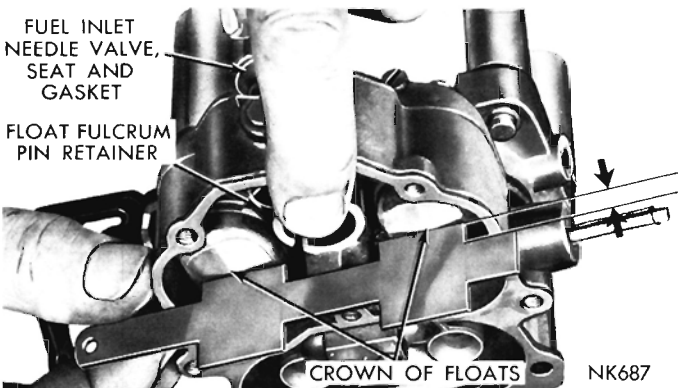

Fig. 10—Measuring the Float Setting
- (1) Install the floats with the fulcrum pin and pin retainer in the main body.
- (2) Install the needle, seat and gasket in the body and tighten securely.
- (3) Invert the main body (catch the pump intake check ball) so that the weight of the floats **only**, is forcing the needle against the seat. Hold finger against retainer to fully seat the fulcrum pin.
- (4) Using Tool T109-282 or a "T" scale, check the float, as shown in (Fig. 10). There should be ¼ inch from the surface of the fuel bowl to the crown of each float at the center.